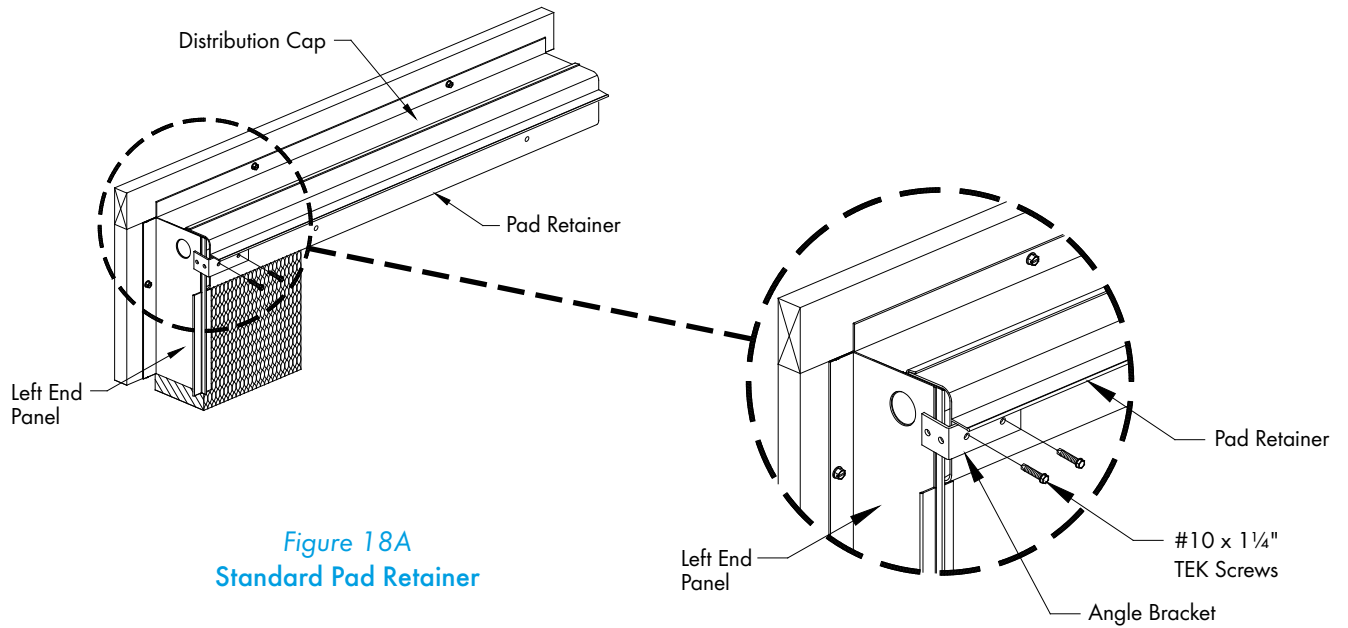

Figure 18A
Holding the left End Panel tight to Distribution Cap, place the long side of the Angle Bracket on the Pad Retainer and the short side over End Panel. See Figure 18A and 18B. Attach the Angle Bracket to the Distribution Cap using (2) #10 x 1 1/4" TEK Screws (provided). Repeat for Right End Panel.